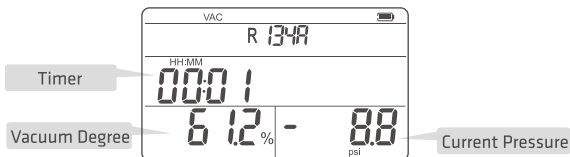

FIG. 4 Vacuum Test Interface
5. The interface [FIG.4] displays the current pressure value of the system, the vacuum degree of the system and the timing of entering the interface .